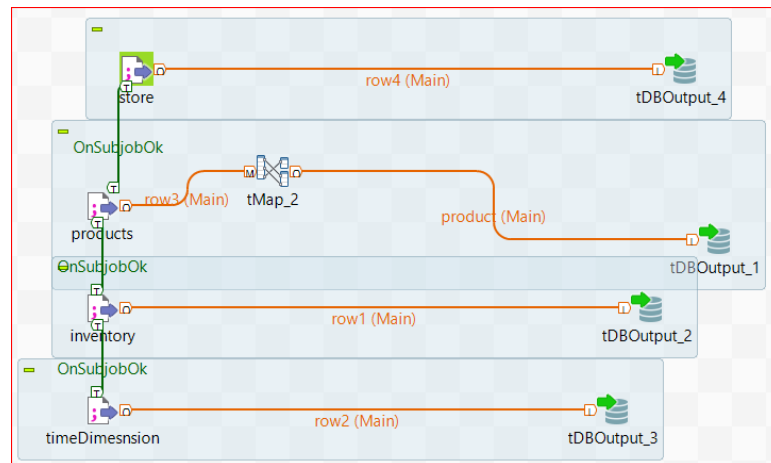

Figure 3: Job For Loading Dimesnions
- since there are links between Dimensions (Foreign key references),the best strategy here is to make a squential job where there is an order of execution between the tasks therefore we don't fall in a foreign key constraint violation in Figure 3 we can see that the loading of a table is subject to the one above it .